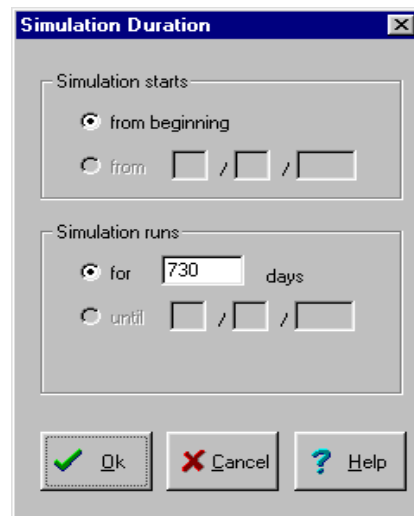

Figure 1.12 Simulation Duration Edit Box
2. From the drop-down menu, select ‘**Initialise Module**’ to open the ‘**Simulation Duration**’ edit box (Figure 1.12);